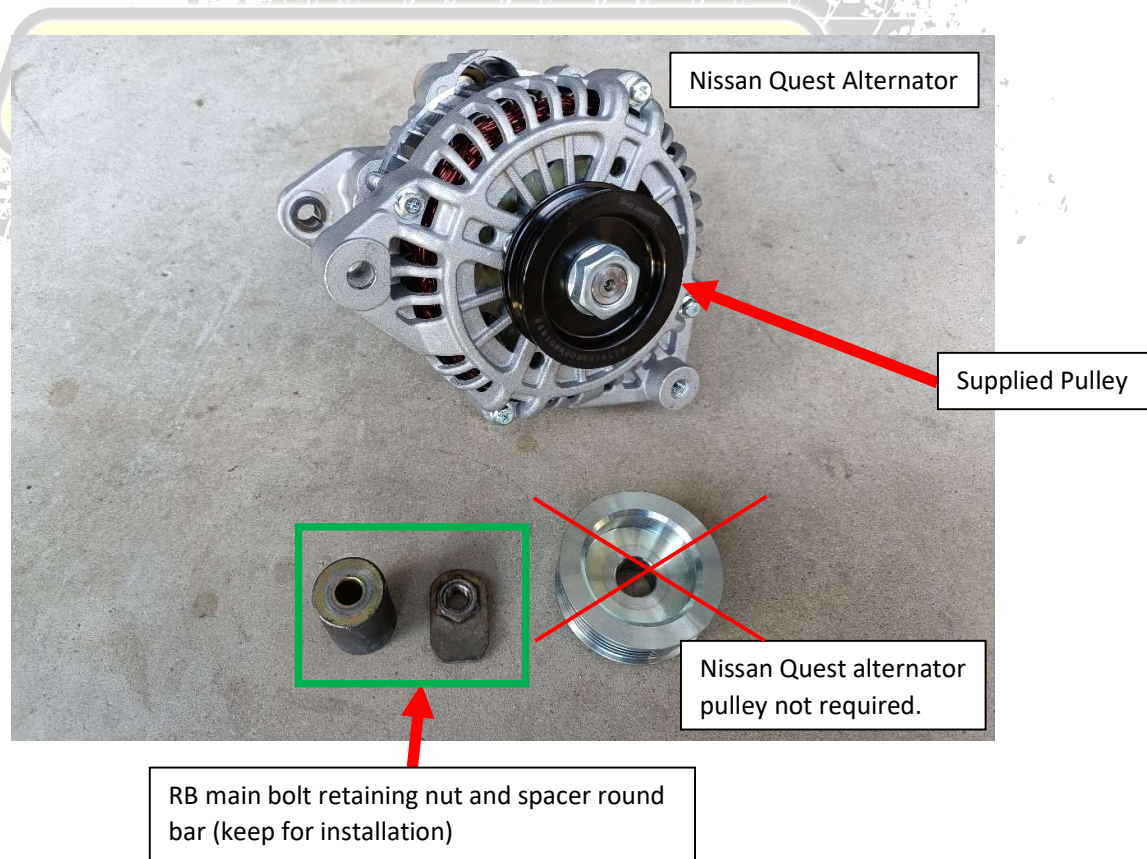

Figure 1 – Component Layout
6. Mount the Nissan Quest alternator to your engine, re-use the components shown in figure 1.